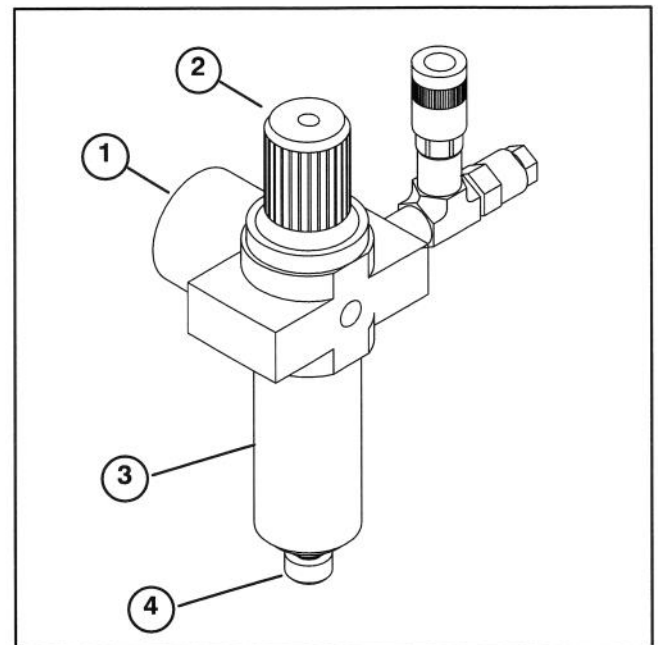

Figure 7
A. Loosen locking screw on pressure regulator adjusting knob (Fig. 7).
10. If water is detected in regulator bowl (Fig. 7):
B. Rotate drain screw counterclockwise to drain water from bowl (Fig. 7).